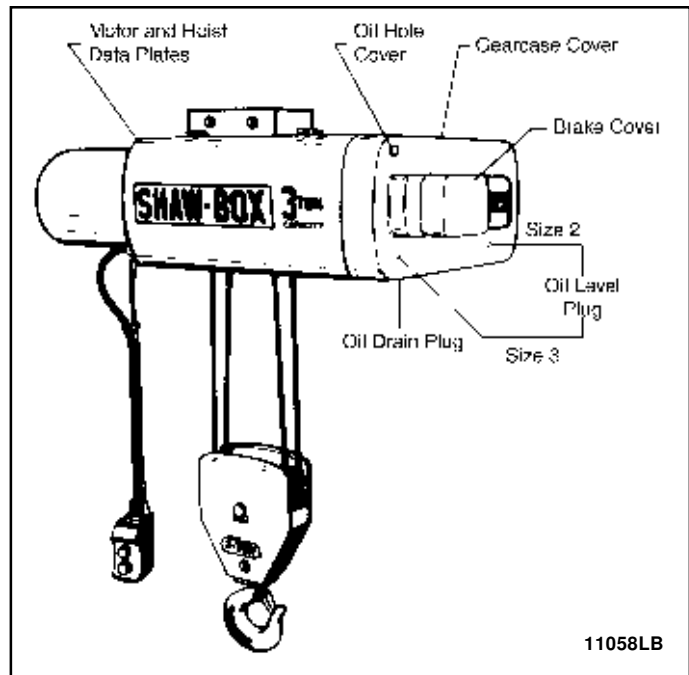

Figure 4-1. View of Hoist Showing Location of Name Plates and Oil Plugs
- a. Check Oil Level. (Figure 4-1) The gearcase has been filled with oil to proper level and grease points for upper and lower sheaves (when so equipped) have been lubricated at the factory. However, this should be rechecked before operating hoist.
4-2. CHANGE GEARCASE OIL. (Figure 4-1)